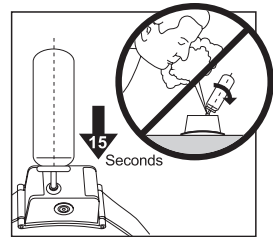

Fig. 3
2. First let the air out of the tank by pressing down on the refill port (2) twice with a screwdriver.
3. Insert the spray nozzle of the spray can from above into the refill port (2) on the device.
4. To fill the device, press and hold the spray nozzle to the refill port (2) for approx. 15 seconds (Fig. 3).